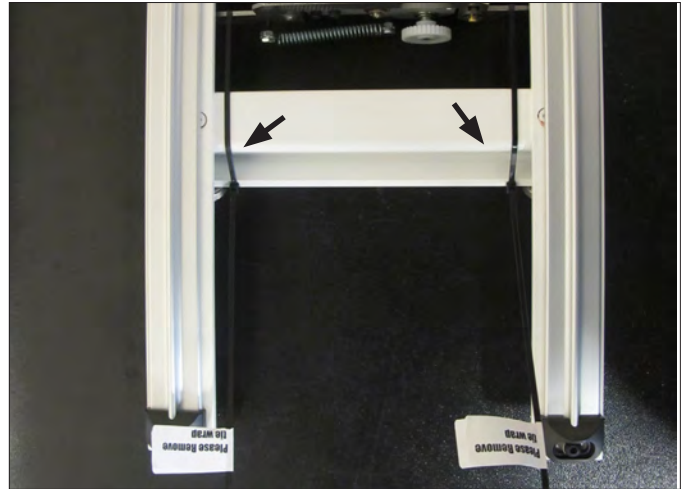

Figure 3.2
1. Remove the blue 12-foot Flexirack (Page 3.3, A) and the HQ Pro-Stitcher carriage (E) from the box. Cut the cable ties from the front of the carriage (**Figure 3.2**).